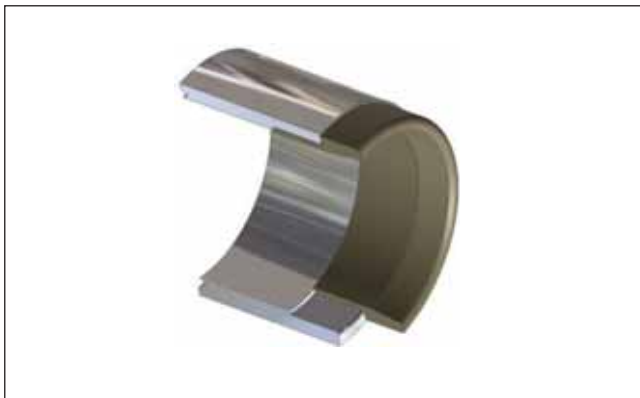

Figure 2-15. Thread protection installation tool cutaway view
**2. Nick and Cut Protection.** Threads, sharp corners and burrs can damage the seal. Care should be taken to avoid contact with these surfaces. Burrs must be removed, sharp corners should be blunted or radiused, and threads should be masked or shielded with special insertion tooling (see Figure 2-15). Although it is good practice to take extra care in the handling and manipulation of the seal, this is seldom sufficient and it usually requires either a safety tool or masking to protect the seal against such damage.